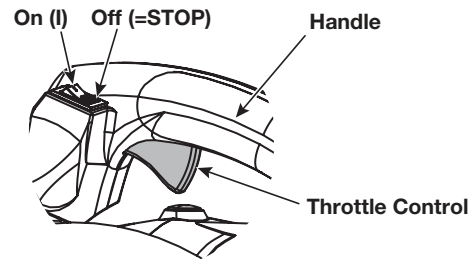

Fig. 5
- Note:** There is no need to turn the unit on. The On/Off switch is in the ON (I) position at all times (Fig. 5).
2. Press and hold the On/Off switch in the OFF (STOP) position until the engine comes to a complete stop (Fig. 5).